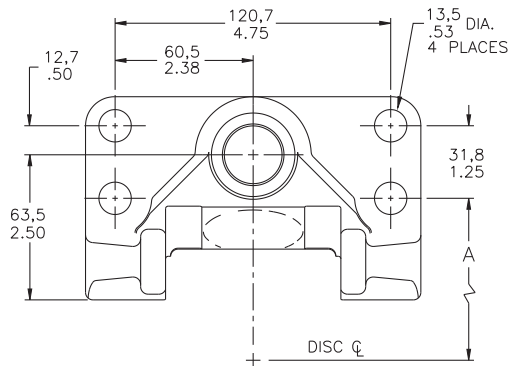

FIGURE 3
2. Using TABLE 2 and Figures 3 and 4 on the page 2, determine "A" dimension and locate mounting bracket assembly holes.